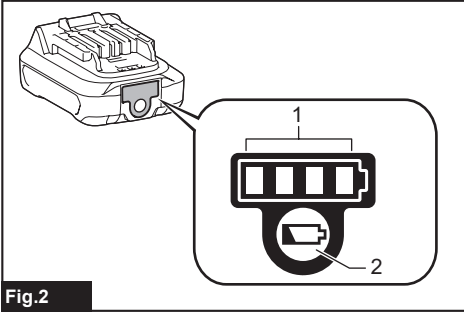

Fig.2
► Fig.2: 1. Indicator lamps 2. Check button